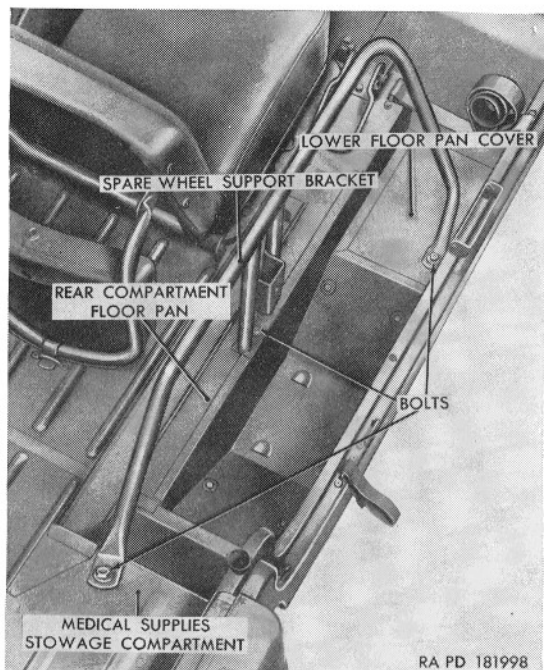

Figure 162.1. (Added) Spare wheel support bracket M170.
a.1. (Added) Spare Wheel Support Bracket M170 (fig. 162.1). Remove the spare wheel and tire assembly (par. 45.1). Remove the three bolts securing the bracket to the lower floor pan cover, rear compartment floor pan cover, and medical supplies stowage compartment and remove bracket from vehicle.
a.1. (Added) Spare Wheel Support Bracket M170 (fig. 162.1).